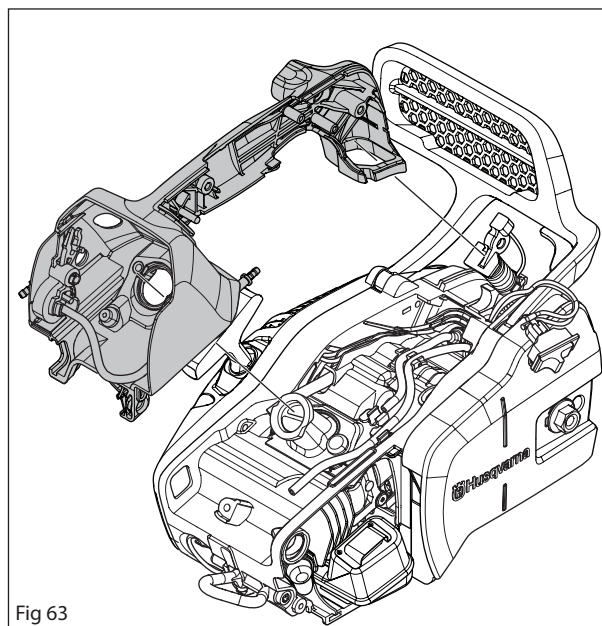

Fig 63
5. Press down the inlet pipe through the right handle and pull up the right handle. Disconnect all the hoses. See Figure 63.